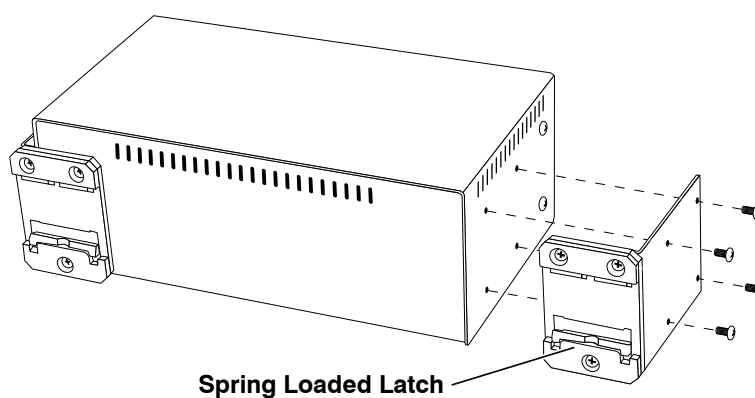

Figure C.4: DIN Rail Mounting
To mount the RSM-8R4-DCM on a DIN Rail, first use four screws to attach the DIN Mounting Brackets to the RSM-8R4-DCM unit as shown in Figure C.4, and then attach the DIN Mounting Brackets to your DIN Rail.
**Note:** Make certain that the spring loaded latches on the DIN Mounting Brackets are oriented as shown in Figure C.4, with the latches positioned towards the floor. If the DIN Mounting Brackets are mounted upside down, the RSM-8R4-DCM unit may not be securely fastened to the DIN Rail.